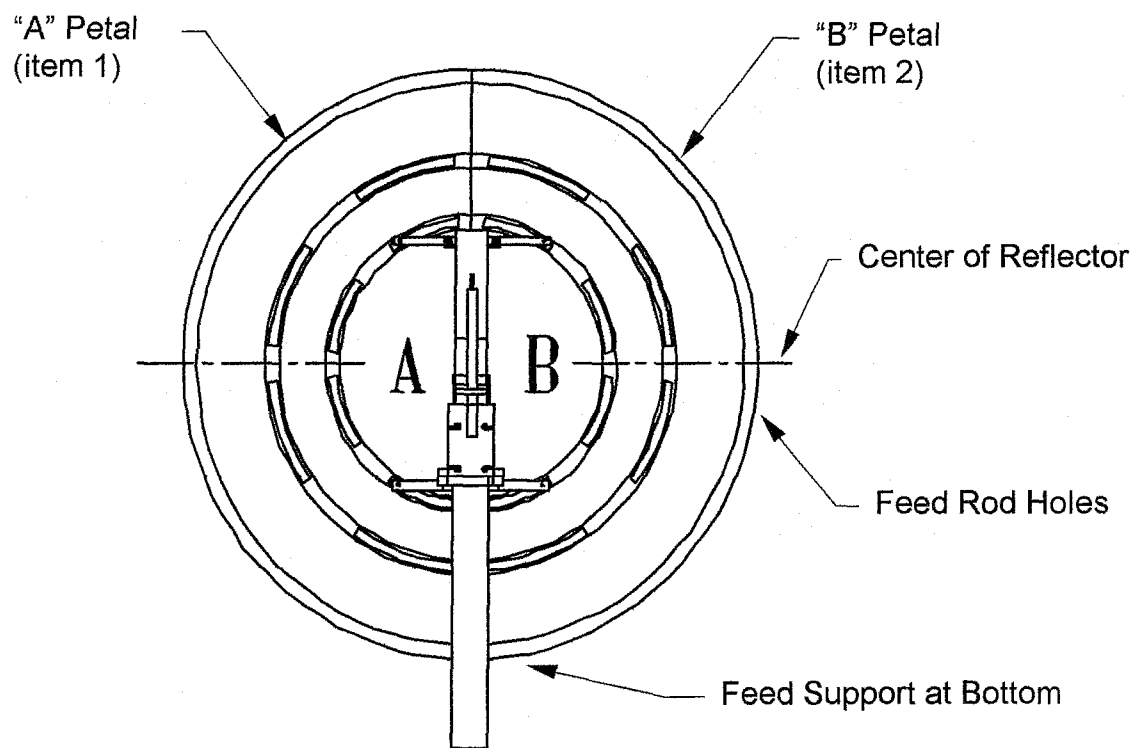

Figure 1
The series 1250 reflector petals are labeled "A" and "B". In the standard upright position, the antenna elevation angle range is between 5 and 90 degrees. When viewed from behind in the standard position (feed support at the bottom), the "A" petal (item 1) is on the left side and the "B" petal (item 2) is on the right side – See Fig. 1.